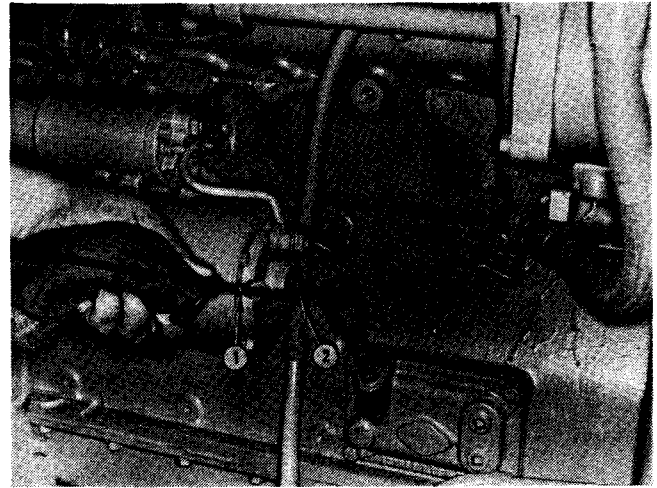

Fig. 1-3, (N12004). Checking engine oil level
A dipstick oil gauge is located on the side of the engine. Fig. 1-3. The dipstick has an "H" (high) (1) and "L" (low) (2) level mark to indicate lubricating oil supply. The dipstick must be kept with the oil pan, or engine, with which it was originally supplied. Cummins oil pans differ in capacity with different type installations and oil pan part numbers.